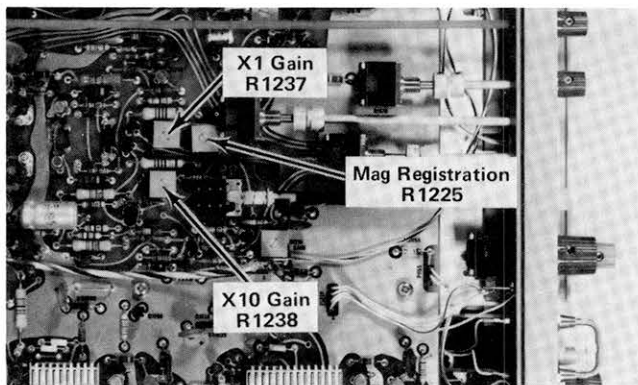

Fig. 5-30. Location of Horizontal Gain and Magnifier Registration adjustments.
c. ADJUST—X1 Gain adjustment, R1237, (see Fig. 5-30) for exactly one time marker/division.
g. ADJUST—X10 Gain adjustment, R1238, (see Fig. 5-30) for exactly one time marker/division.
f. ADJUST—Magnifier Registration adjustment, R1225, (see Fig. 5-30) to position the middle time marker to the center vertical graticule line.